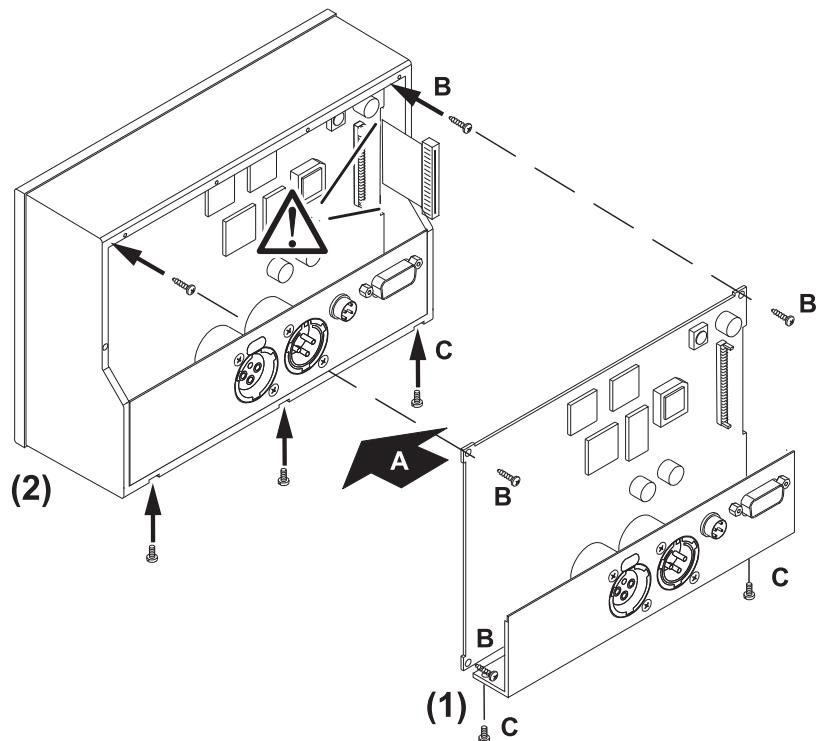

Fig. E 7-10: Remounting the main pcb and the connector panel
10. Place the main pcb with the attached connector panel back to its holder bases (A). Take care about the wiring of the connecting flat cable. It has to be directed through the right sided gap of the pcb without clamping and may only stick out for about 1 - 2 cm maximum. Avoid damage because of canting. Now first fasten the main pcb with its three screws (B), then fasten the connector panel with its two (spare out the middle hole) screws from the bottom side (C). (Fig. E 7-10)